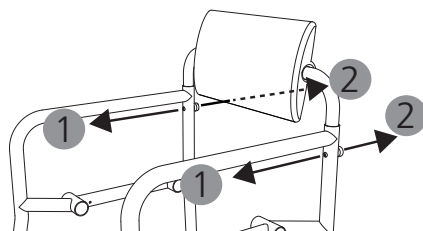

Fig. 25
2. Undo the knurled nuts on the rear of the backrest and remove the bolts (1, 2, Fig. 25). Keep the bolts somewhere safe until you are ready to reassemble the product.